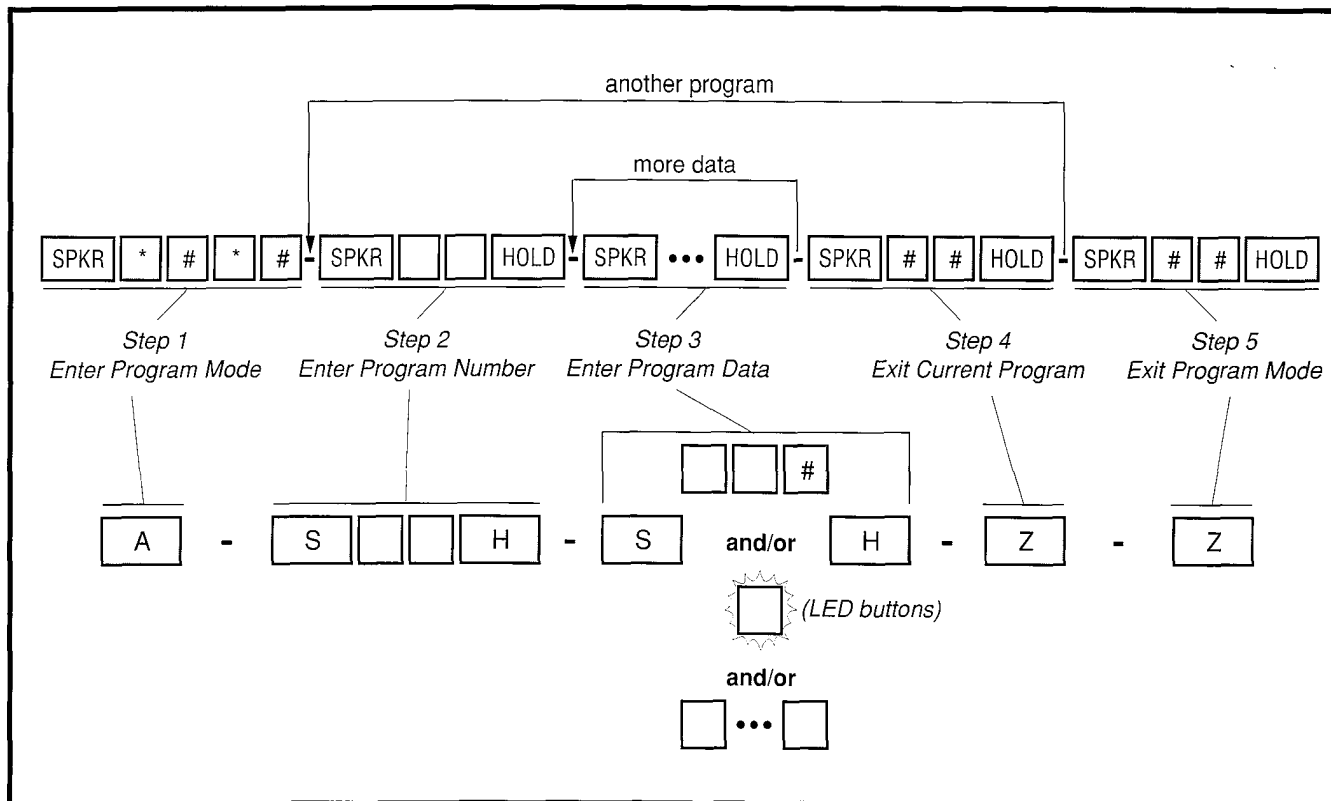

FIGURE 1-1—PROGRAMMING BUTTON SEQUENCE OVERVIEW
5-step process described below, and illustrated in Figure 1-1. *Button (key) sequences that stay the same for every program are abbreviated, and shaded.* Button sequences that are unique for every program are white.
- 1) In step 1, enter Programming Mode by pressing a series of buttons. See Figure 1-1. *To save space on the record sheets, abbreviation "A" is used to denote the beginning sequence.* "A" buttons are shaded.
3.12 Each System Record Sheet has the abbreviated button sequence shown in Figure 1-1 for its program illustrated at the top of the sheet.